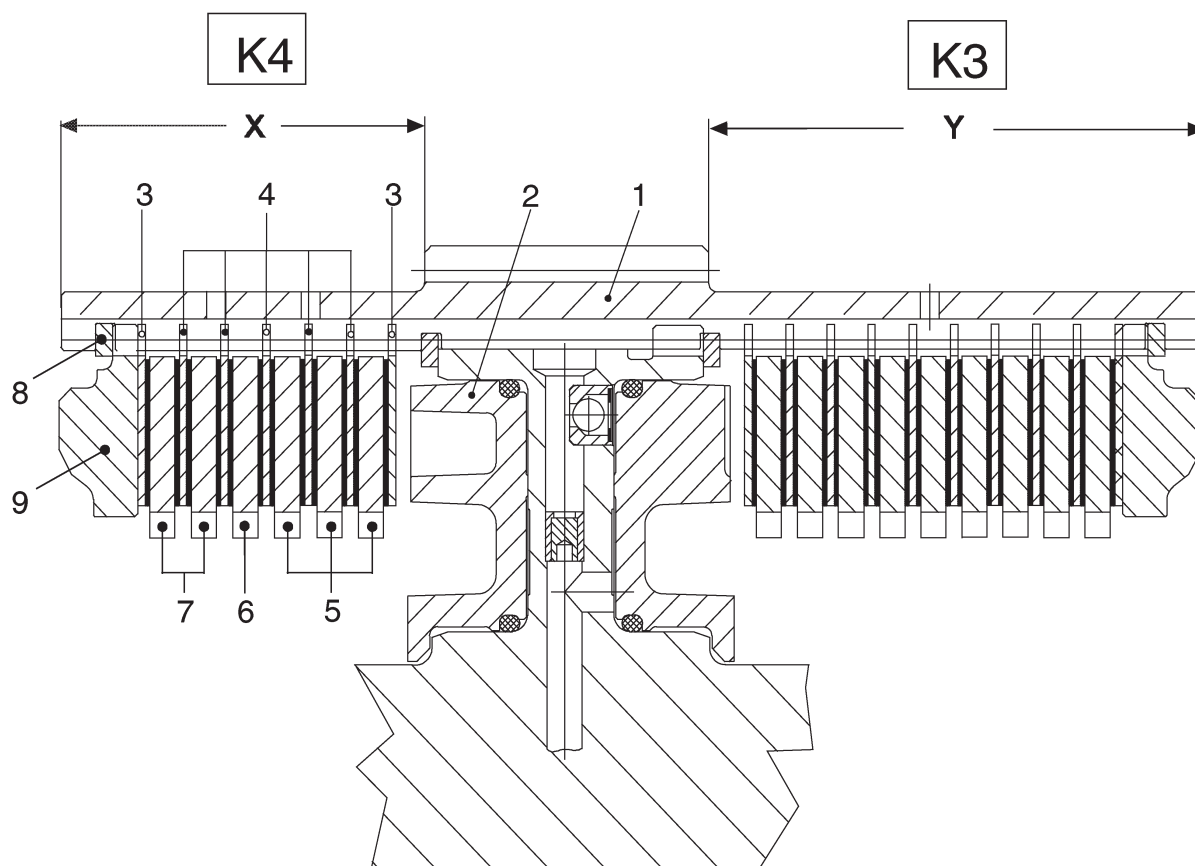

Figure 136
(1) Install disc set according to sketch or table (figure 136).